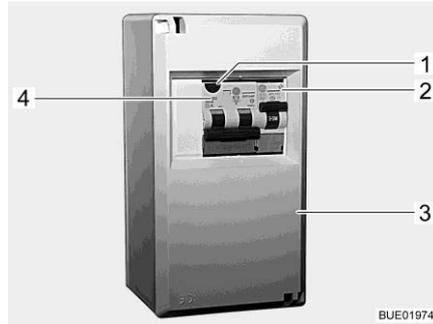
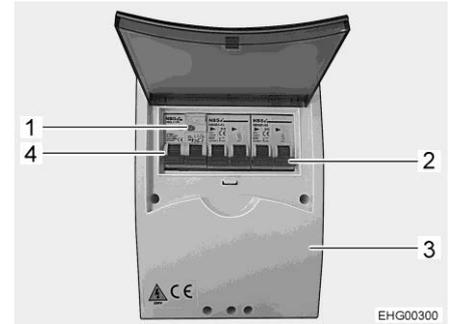

Fig. 186 230 V fuse box
Fig. 187 230 V fuse box (variant)
- Switch off the safety cut-outs (Fig. 186,2, Fig. 186,4 or Fig. 187,2, Fig. 187,4) in the fuse box (Fig. 186,3 or Fig. 187,3).
- When the vehicle is connected to the 230 V supply, press the test button (Fig. 186,1 or Fig. 187,1) of the combined fault current protection switch /safety cut-out (Fig. 186,4 or Fig. 187,4) in the fuse box (Fig. 186,3). The fault current protection switch must trip.